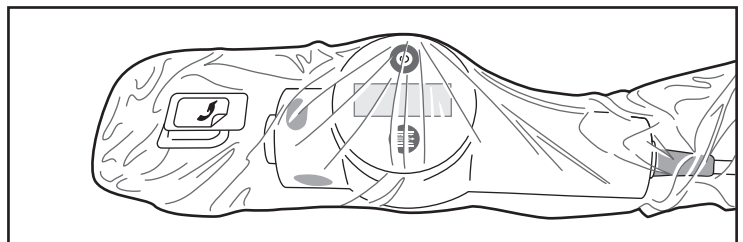

Figure 6. Positioned Bag
7. To position the bag, stop advancing the MDU5 PLUS into the bag as soon as a snug fit is obtained. The sterile operator does not need to advance the MDU5 PLUS all the way to the bag's faceplate. It is normal to have space between the nose of the MDU5 PLUS and the faceplate on the bag (Figure 6).